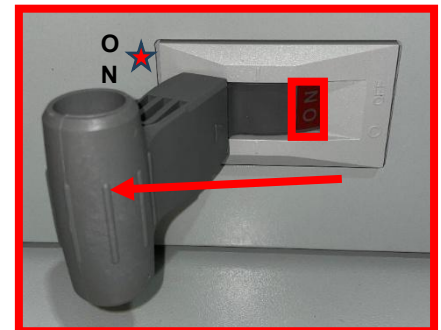

Figure 47 – Main Switch in the ON position
18. At site's AC circuit breaker, turn on breaker and check voltage input. If voltage input is not OK, turn OFF AC circuit breaker and troubleshoot the issue. If voltage input is OK, open left-side door of charger and move charger's Main Switch to the ON position (Figure 47).